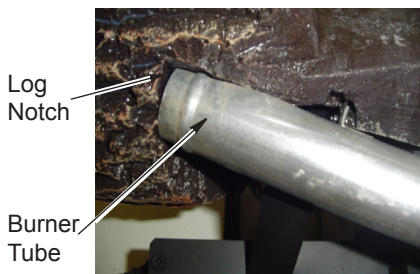
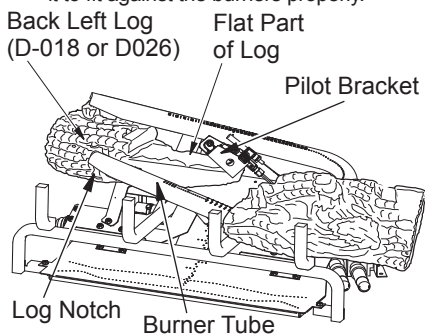

Figure 25A - Installing Back Left Log
Figure 25 - Installing Back Left Log
2. Find the back left log (LMF42-SC: D-018 or LMF48-SC: D026). See Figures 25, 25A, and 25B. Figure 25A shows how the log must fit against the end of the burner. Figure 25B shows how the log fits against the vertical portion of the burner tube. Place this log on the base assembly by inserting it from the left side as shown in Figure 25. You may need to twist the log slightly to get it to fit against the burners properly.